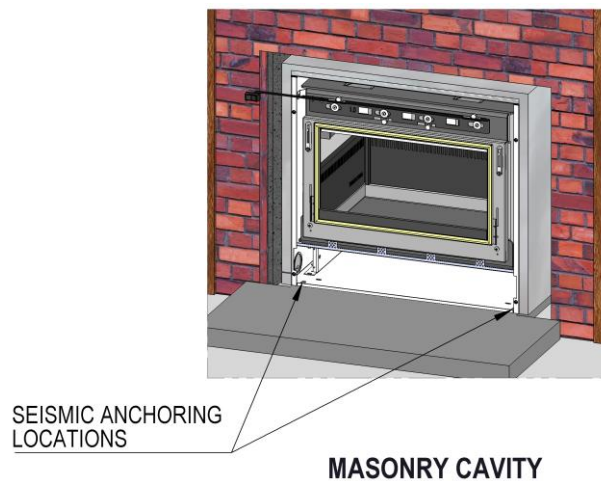

Fig. 7
- D1.** Heater must be restrained from seismic movement (Fig. 7) as required by AS/NZS 2918:2001
- Ensure the unit is securely fixed using sleeve anchors or similar at the locations shown in the images on this page. (Fig. 7)